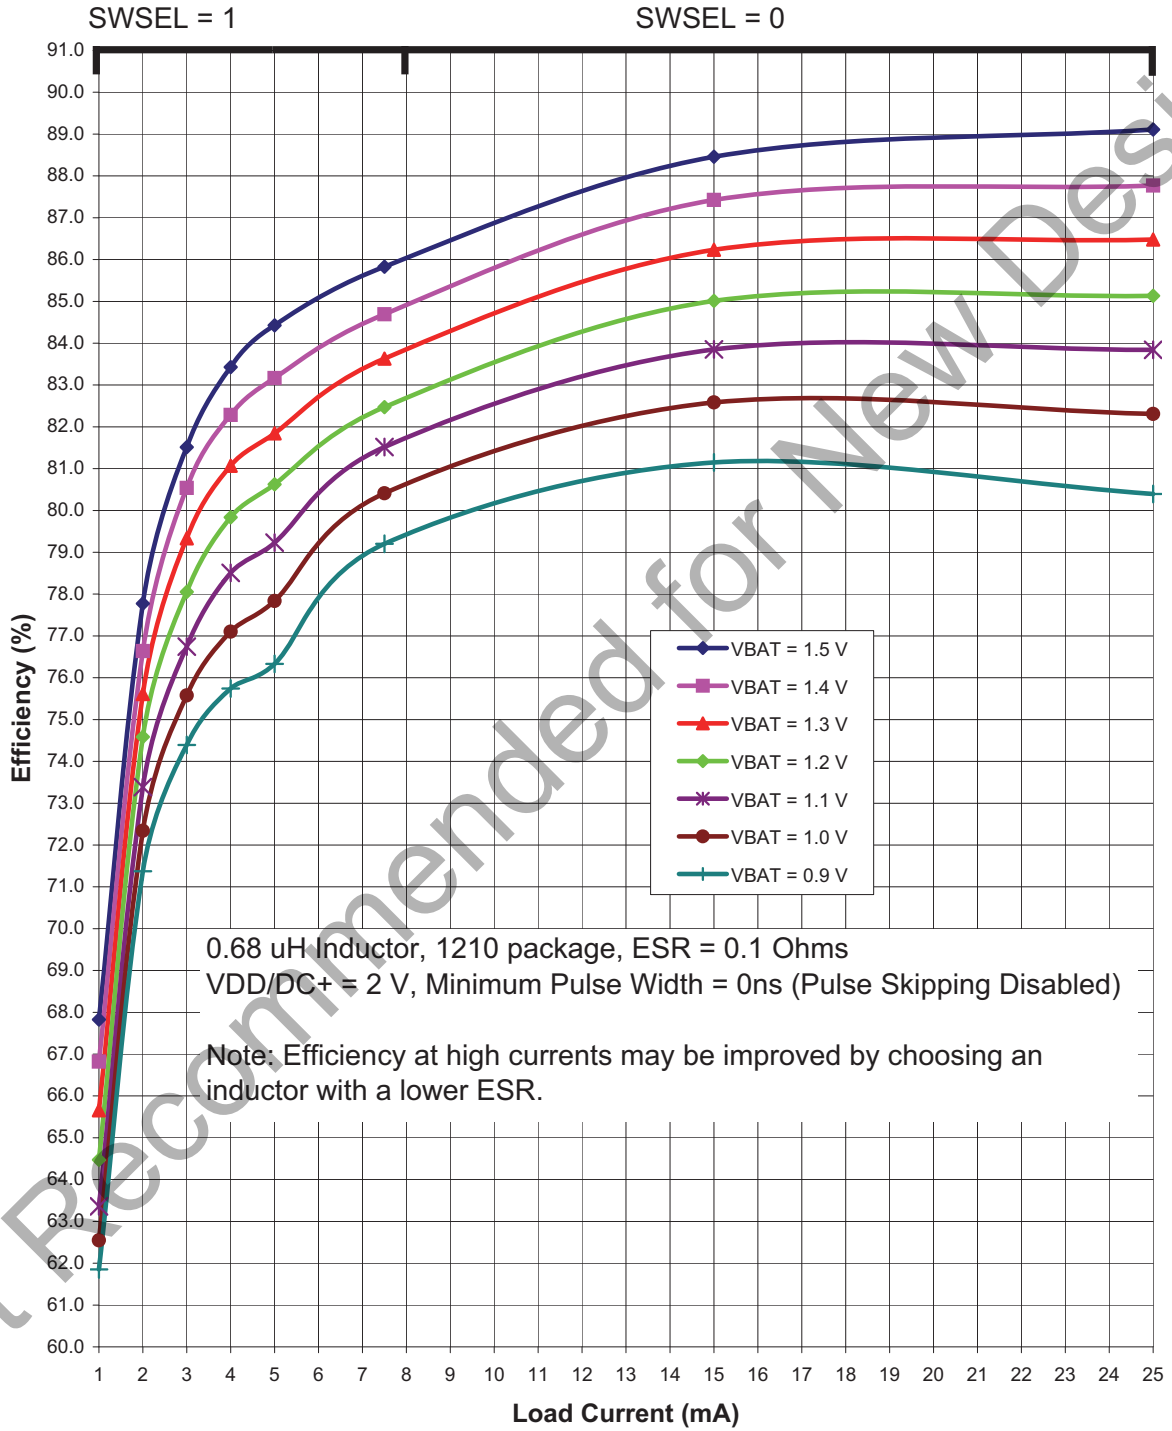
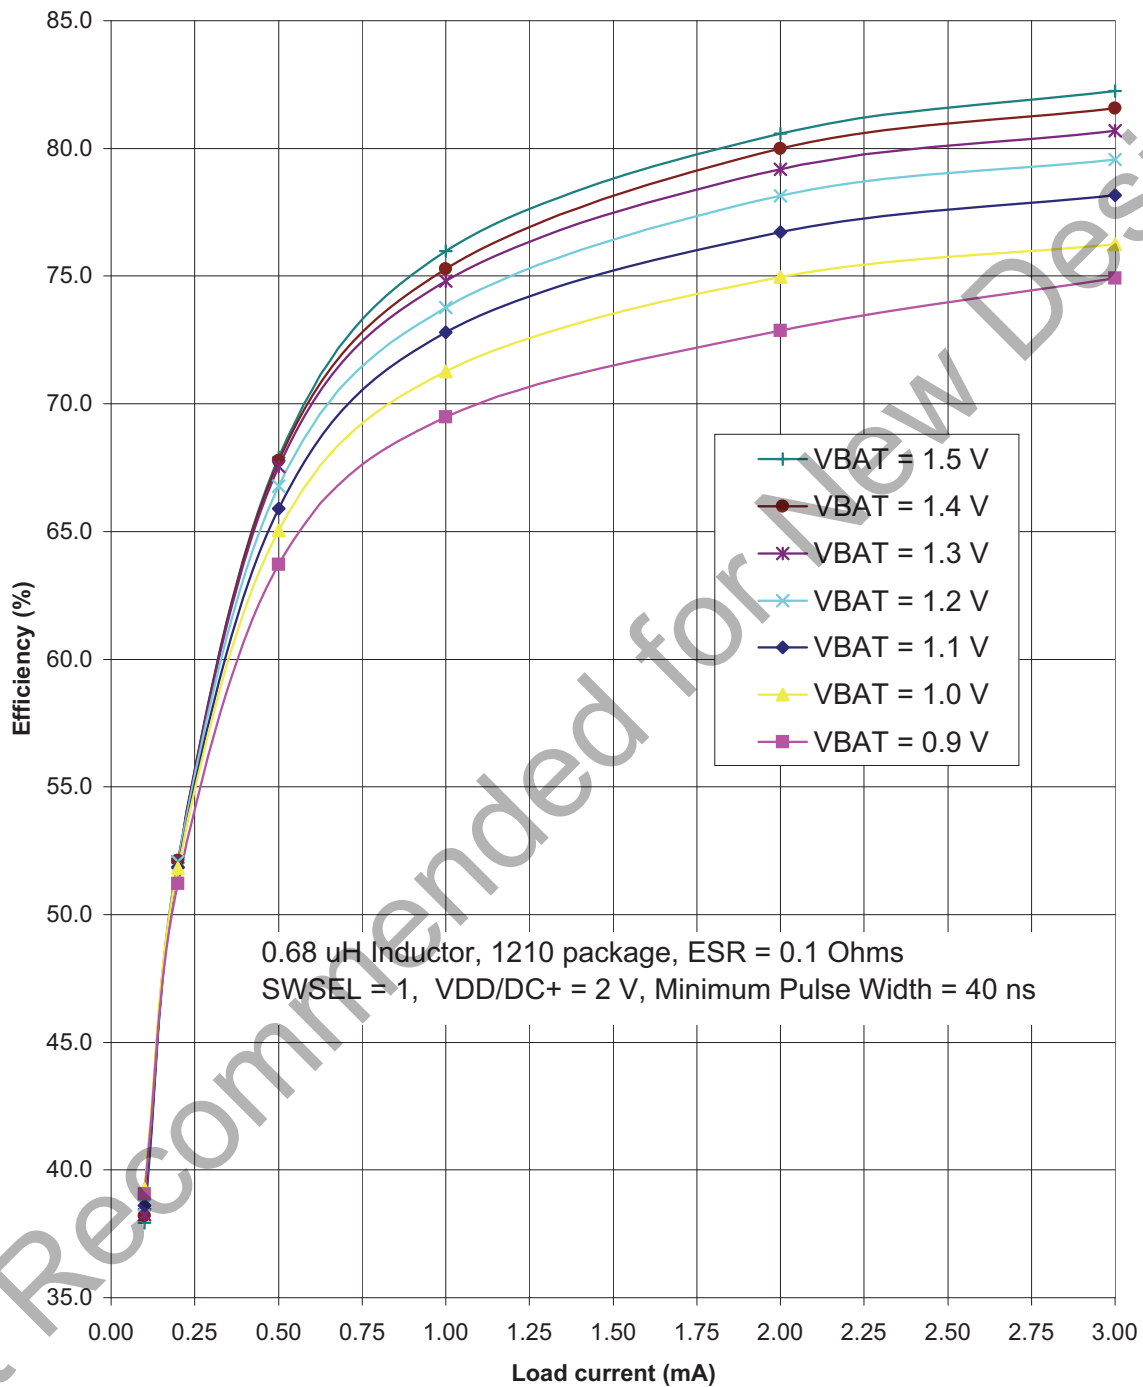

Figure 4.3. Typical DC-DC Converter Efficiency (High Current, VDD/DC+ = 2 V)
Figure 4.5. Typical DC-DC Converter Efficiency (Low Current, VDD/DC+ = 2 V)
The DC-DC Converter Efficiency can be estimated using Figure 4.3–Figure 4.5.
<ol style="list-style-type: none"> <li>Based on device characterization data; Not production tested.</li> <li>SYSCLK must be at least 32 kHz to enable debugging.</li> <li>Digital Supply Current depends upon the particular code being executed. The values in this table are obtained with the CPU executing an “sjmp \$” loop, which is the compiled form of a while(1) loop in C. One iteration requires 3 CPU clock cycles, and the Flash memory is read on each cycle. The supply current will vary slightly based on the physical location of the sjmp instruction and the number of Flash address lines that toggle as a result. In the worst case, current can increase by up to 30% if the sjmp loop straddles a 64-byte Flash address boundary (e.g., 0x007F to 0x0080). Real-world code with larger loops and longer linear sequences will have few transitions across the 64-byte address boundaries.</li> <li>Includes oscillator and regulator supply current.</li> <li>IDD can be estimated for frequencies ≤14 MHz by simply multiplying the frequency of interest by the frequency sensitivity number for that range, then adding an offset of 90 μA. When using these numbers to estimate IDD for &gt;14 MHz, the estimate should be the current at 25 MHz minus the difference in current indicated by the frequency sensitivity number. For example: VDD = 3.0 V; F = 20 MHz, IDD = 4 mA – (25 MHz – 20 MHz) x 0.102 mA/MHz = 3.5 mA assuming the same oscillator setting.</li> <li>The supply current specifications in Table 4.2 are for two cell mode. The VBAT current in one-cell mode can be estimated using the following equation:  <math display="block">\text{VBAT Current (one-cell mode)} = \frac{\text{Supply Voltage} \times \text{Supply Current (two-cell mode)}}{\text{DC-DC Converter Efficiency} \times \text{VBAT Voltage}}</math> <p>The VBAT Voltage is the voltage at the VBAT pin, typically 0.9 to 1.8 V.                      The Supply Current (two-cell mode) is the data sheet specification for supply current.                      The Supply Voltage is the voltage at the VDD/DC+ pin, typically 1.8 to 3.3 V (default = 1.9 V).                      The DC-DC Converter Efficiency can be estimated using Figure 4.3–Figure 4.5.</p> </li> <li>Idle IDD can be estimated by taking the current at 25 MHz minus the difference in current indicated by the frequency sensitivity number. For example: VDD = 3.0 V; F = 5 MHz, Idle IDD = 2.1 mA – (25 MHz – 5 MHz) x 0.079 mA/MHz = 0.52 mA.</li> <li>Internal LFO only available on 'F912 and 'F902 devices.</li> <li>Ability to disable VBAT supply monitor only available on 'F912 and 'F902 devices.</li> </ol>